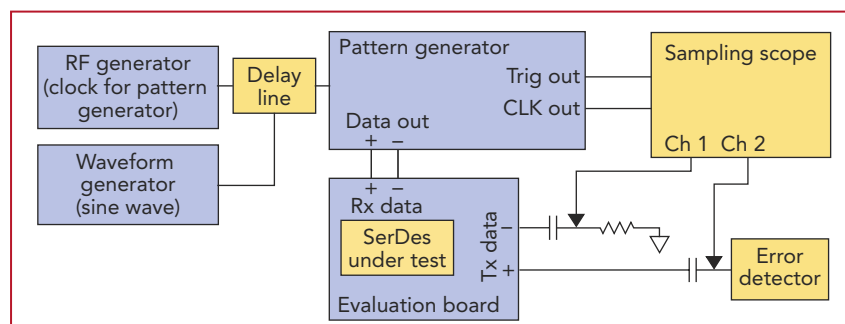
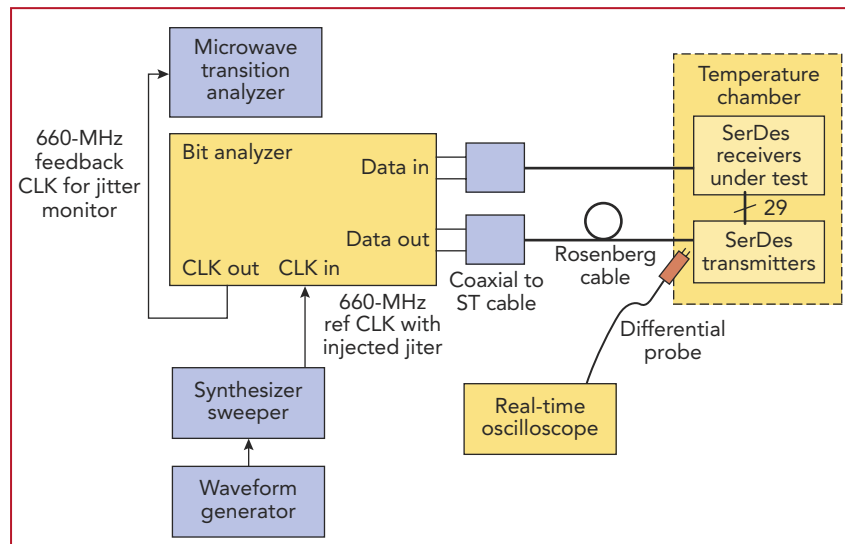

FIGURE 3. David Andres of Marvell Semiconductor uses this test setup to test SerDes receivers for BER in the presence of jitter.
FIGURE 4. A test setup used by Chung Wu of Maxim Integrated products uses a synthesizer sweeper that generates a modulated clock signal for a bit analyzer.
Figure 3 shows the current iteration of a test system that Andres uses to evaluate SerDes receivers. The DUT resides on an evaluation board. An RF signal generator produces a 10-GHz signal that becomes the system clock. A waveform generator supplies the frequency-modulation (FM) signal that represents S_j . An RF delay line modulates the 10-GHz signal with the S_j signal.
The test setup in **Figure 4** shows that Wu uses a system similar to Andres, but all injected jitter is sinusoidal. The RF synthesizer generates a clock signal, and the waveform generator produces the modulation sinusoid signal. A microwave analyzer measures the output clock from a bit analyzer and controls the waveform generator. Wu's test setup uses more test equipment than Andres' setup (Figure 3) because Wu performs temperature testing and varies signal amplitude.